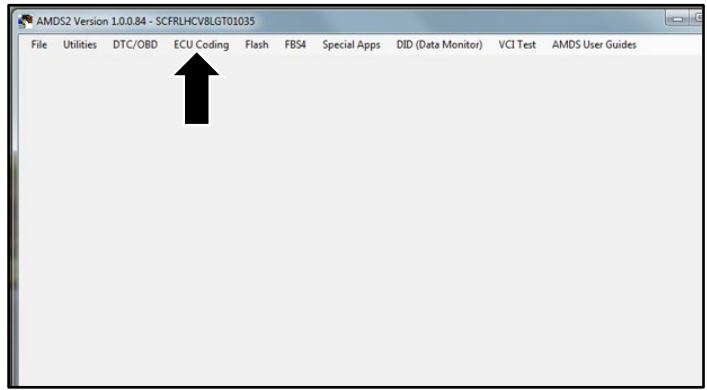

Figure 1
- 4. Select 'ECU Coding'. (Refer to Figure 1).